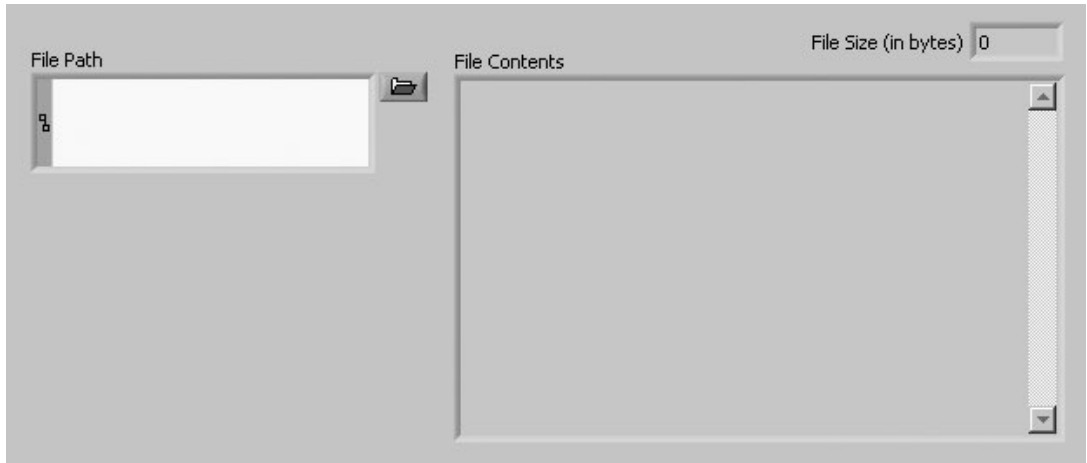

Figure 14.18
1. Build the front panel shown in Figure 14.18.